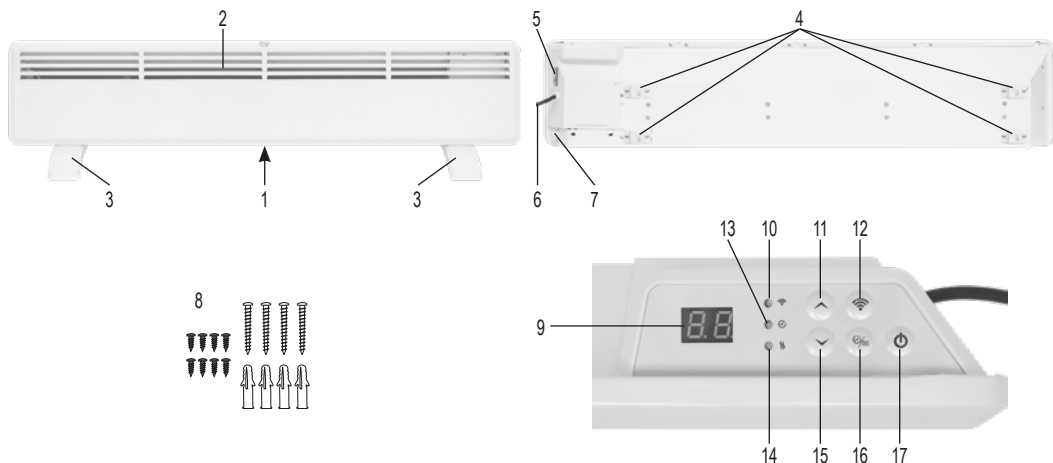

figure 2. • 2. ábra • 2. obraz • figura 2. • Abb. 2 • 2. skica • 2. obrázek • 2. slika
9. Do not place in a direct corner, observe the minimum installation distances shown in Figures 2 and 3. Observe the safety regulations in force in your country!
3. Screw the supplied feet to the bottom of the heater (**Figure 2**) using 4 small screws per foot.